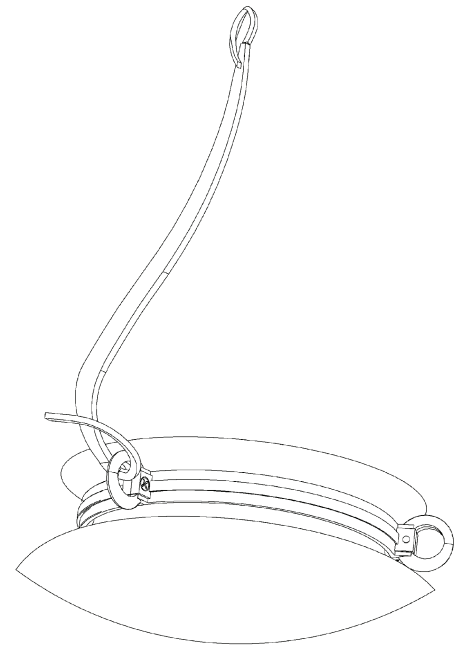

Figure 2
2. To attach arm to band, grasp the arm so that the larger curled loop is toward the bottom with the tip toward the left. Start the tip of the loop through one of the rings on the band. Twist the arm 360 degrees, guiding the curl through the ring, until the curl is completely around the ring as shown in the illustration. Repeat the process for the remaining arms (Figure 2).